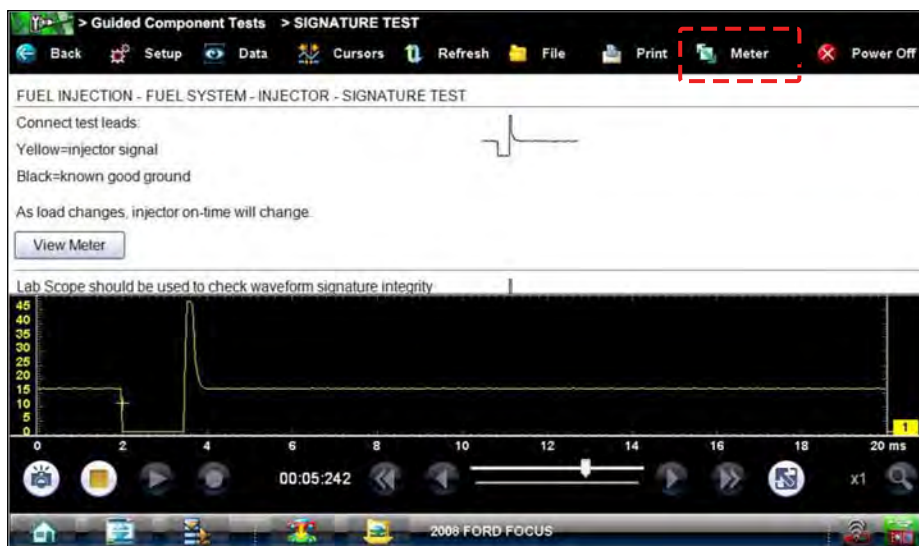

Figure 7-10 Sample view meter window
- **View Meter**—opens a live meter set up to perform the test in the lower portion of the screen (Figure 7-10). Once the meter view is open, the Guided Component Test toolbar at the top of the screen is replaced by the Scope Multimeter toolbar, which allows you to make adjustments to the settings. See Scope Multimeter Toolbar on page 111 for details.
A Meter icon, which is only available in the Guided Component Test view meter mode, appears on the upper toolbar (Figure 7-10).
1. With View Meter active (Figure 7-10), select the **Meter** icon on the toolbar once and the meter expands to fill the entire screen.
3. Select the **Meter** icon a third time to close the separate window and return to the standard meter view as shown in Figure 7-10.